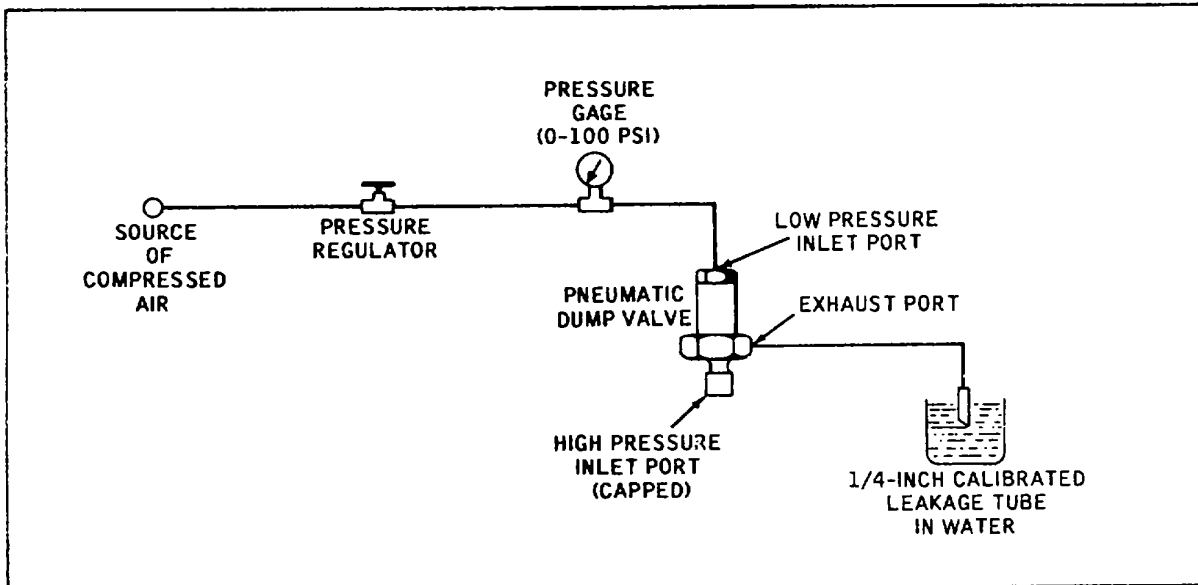

Figure 4-6. Set-up for Testing Pneumatic Dump Valve
a. Make test connections to pneumatic dump valve as shown schematically in Figure 4-6.
d. Use same test set-up as illustrated in Figure 4-6 except disconnect leakage tube from exhaust port and connect an adjustable source of high pressure compressed air to high pressure inlet port of pneumatic dump valve.